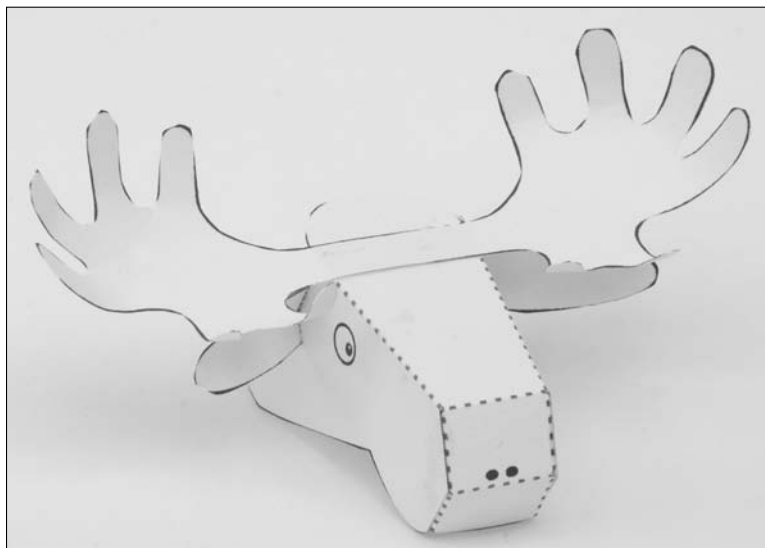

Figure 11-7:
3. Glue the parts of the head together (using Figure 11-7) and add the ears and antlers.